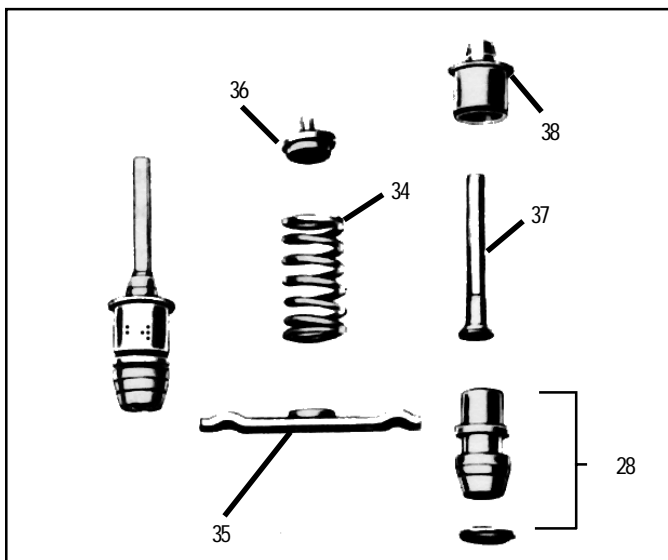

FIGURE 13 - UNLOADER MECHANISM
A new unloader kit should be used when rebuilding. (Figure 13). (Piece Number 279615). The unloader pistons in the kit are prelubricated with a special lubricant piece number 239379 and need no additional lubrication. Install the unloader pistons (28) in their bores being careful not to cut the o-rings. Position the unloader plungers (37) in their guides (38) and slip them in and over the tops of the pistons. Install the unloader spring seat (36) in the cylinder block inlet cavity; a small hole is drilled in the cylinder block for this purpose. Position the saddle (35) between the unloader piston guides (38), so its forks are centered on the guides. Install the unloader spring (34), making sure it seats over the spring seats both in the block and on the saddle. Position and install the inlet valve guides (38), then drop the inlet valves in their guides. The inlet valves should be a loose sliding fit in the guides.